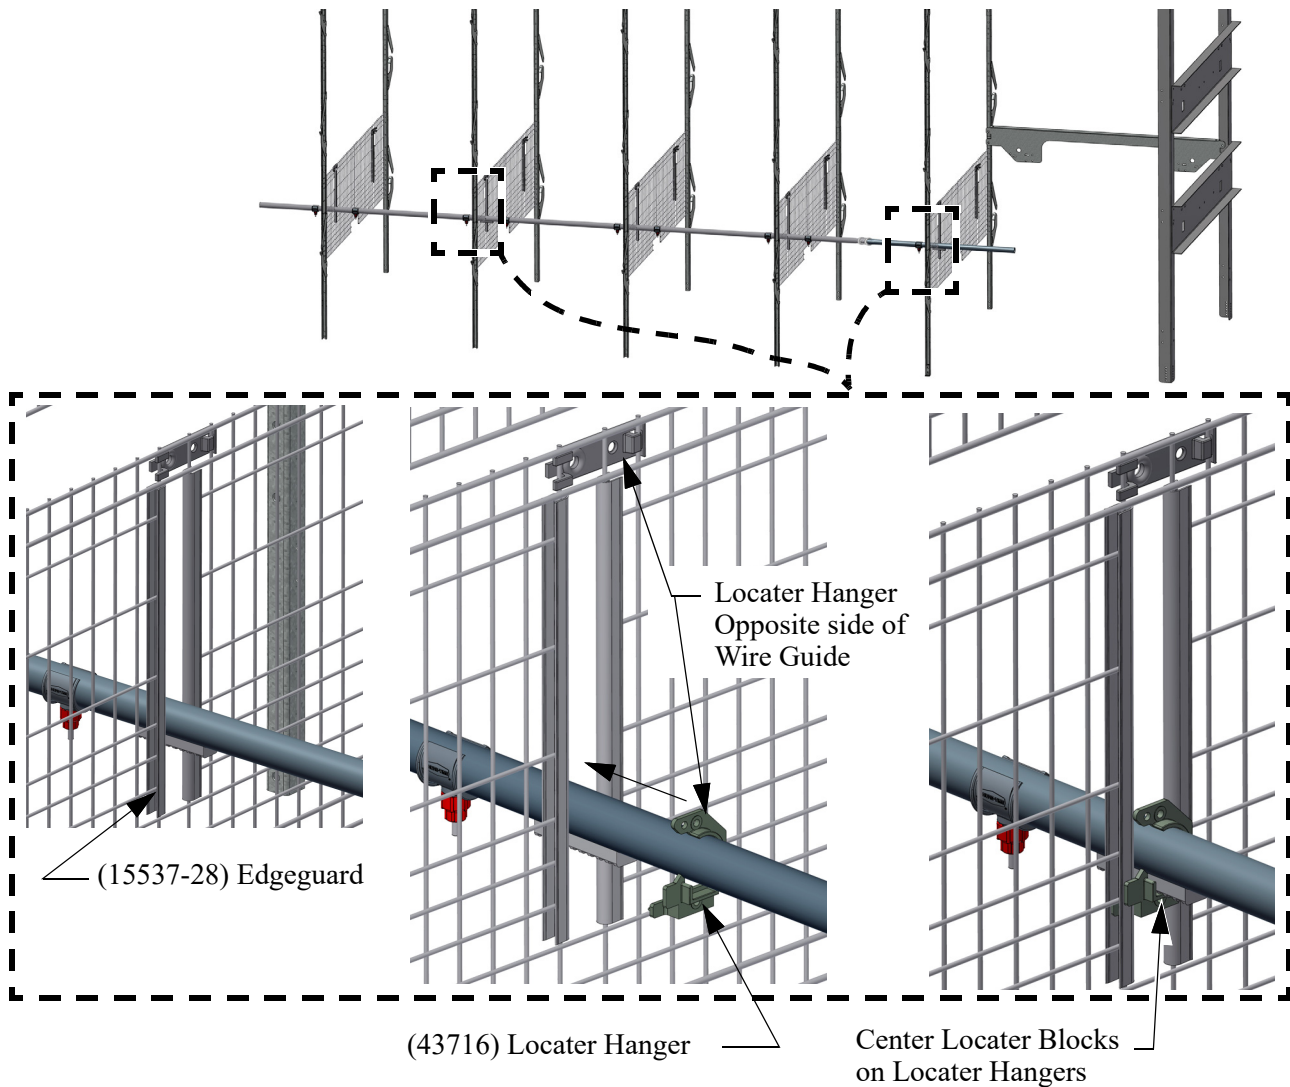

Figure 12.Edge Guard/Locator Block installation
4. Install a Locator Hanger (43716) at each Locator Block location as shown in **(Figure 12.)**